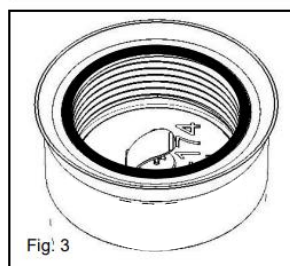

Fig. 3
4. Tuning and Installation (Figure 3):